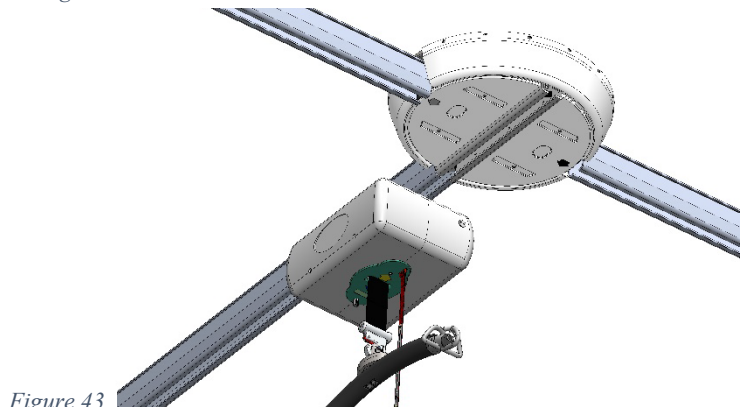

Figure 43
8. Once aligned with the track exit, traverse the hoist out of the turntable and into the new track system. (Figure 43)